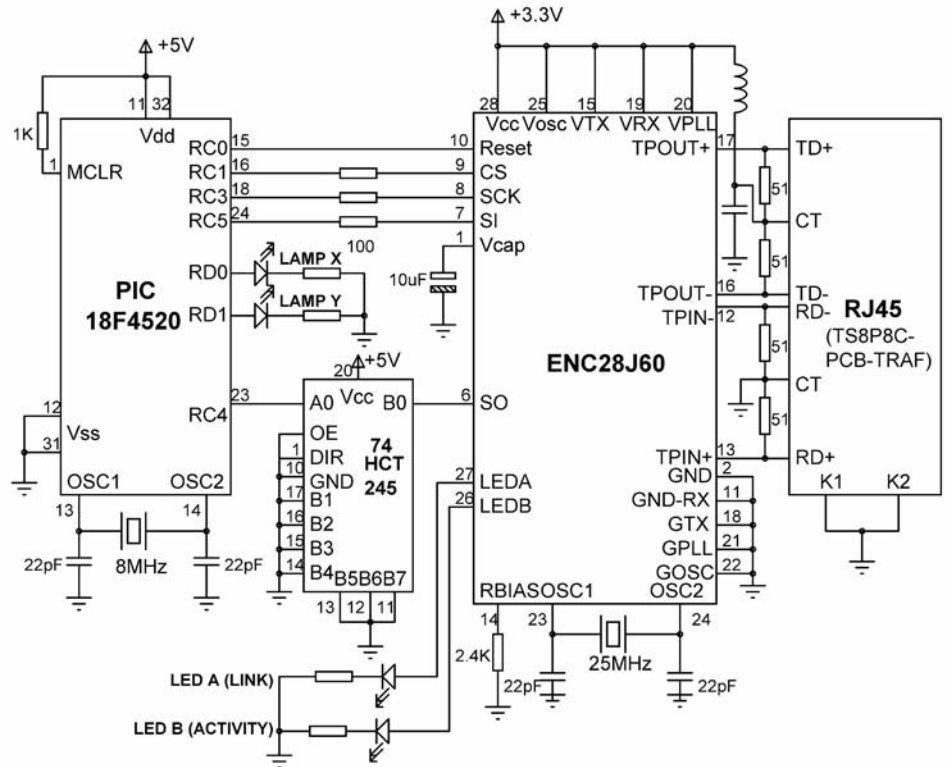

Figure 8: Circuit diagram of the Ethernet controller
Figure 8 shows the circuit diagram of the Ethernet controller. The controller is designed around the PIC18F4520 microcontroller, operating at 8MHz and the ENC28J60 Ethernet chip, operating at 25MHz. The interface between the microcontroller and the Ethernet chip is based on the SPI bus protocol (www.zone.ni.com/devzone/cda/tut/p/id/9119) where the SI, SO and SCK pins of the Ethernet chip are connected to SPI pins (PORT C) of the microcontroller. The Ethernet chip operates with 3.3V and its output pins (SO) cannot drive the microcontroller inputs without a unidirectional voltage translator. In Figure 8, a 74HCT245 type buffer is used to boost the output signal level of pin SO. Other low-cost chips such as 74HCT08 (AND gate), 74ACT125 (quad 3-state buffer) or other chips could also have been used instead.